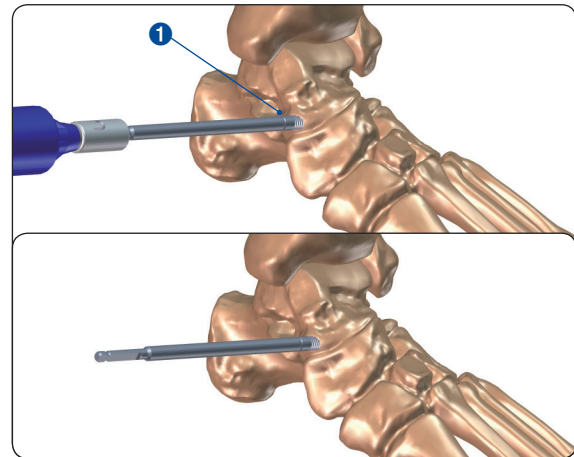

Fig. 7
**WARNING:** The Soft Tissue Reference Line on the screw must not go deeper than the skin surface. (Fig. 7)